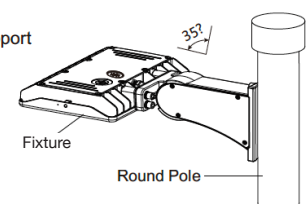

Fig. 26
2. Secure the bracket to the pole with bolts. Connect the power cable and ensure wire connections are tight and secure. Close the access cover and tighten. **Note:** Adjustable angle is 0-35°. (Fig. 26)